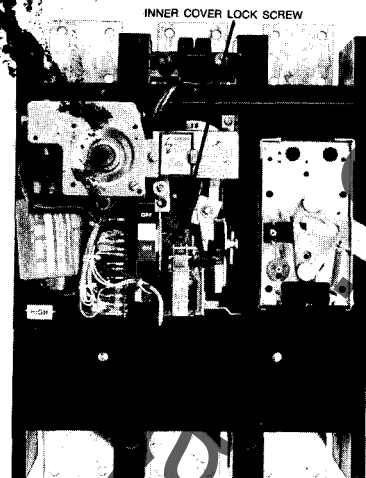

Figure 22. Inner Cover Lock Screw
2. Loosen cap screws as shown in Fig. 22.
- c. Tighten inner cover lock screw to 10-in. lbs. max., see Fig. 22.